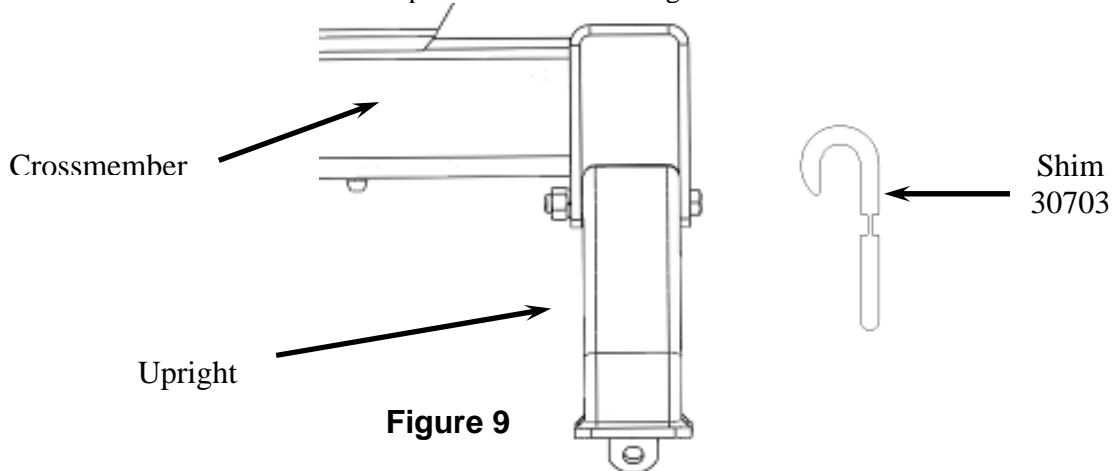

Figure 9
- Check each rail hitch pin for freedom of movement in the bed rail connection before tightening the 5/8" carriage bolts. Adjust uprights, if necessary, by placing a washer between the upright and the cross member to obtain free pin movement. See Figure 9.